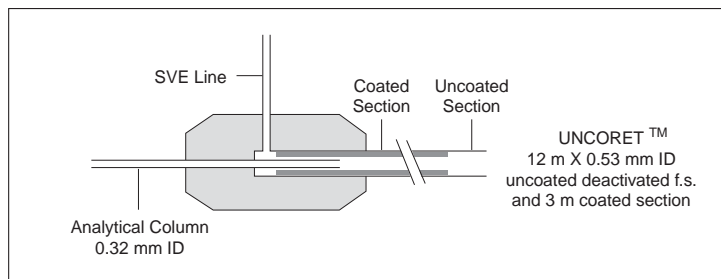

Figure 14-6. Uncoret™ Pre-Column/Column Connection
4. Insert the analytical column end through the tee connector as shown in Figure 14-6.